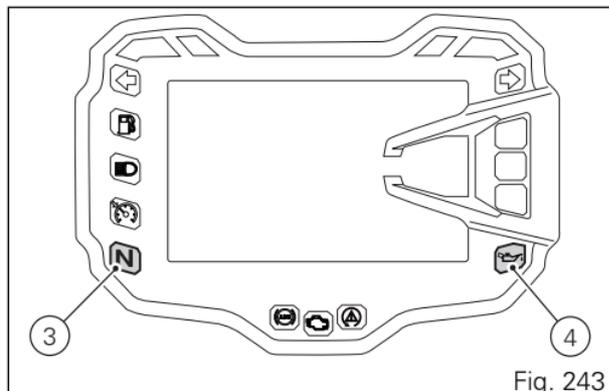

Fig. 243
The red oil pressure warning light (4, Fig. 243) should go out a few seconds after the engine has started. The engine will shut off by turning the red button (1) on the handlebar to RUN OFF. To turn on the "Hands free" system and all electronic onboard systems, refer to page 214 "Hands Free System".